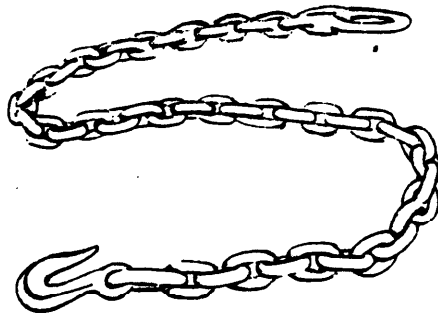

Fig. 2--1/2-Inch Chain
- 2.02 The 1/2 inch construction chain is provided in 6 and 15 foot lengths. One end of the chain terminates in a pear shaped link and the other end in a grabhook. A six foot length is shown in Fig. 2.